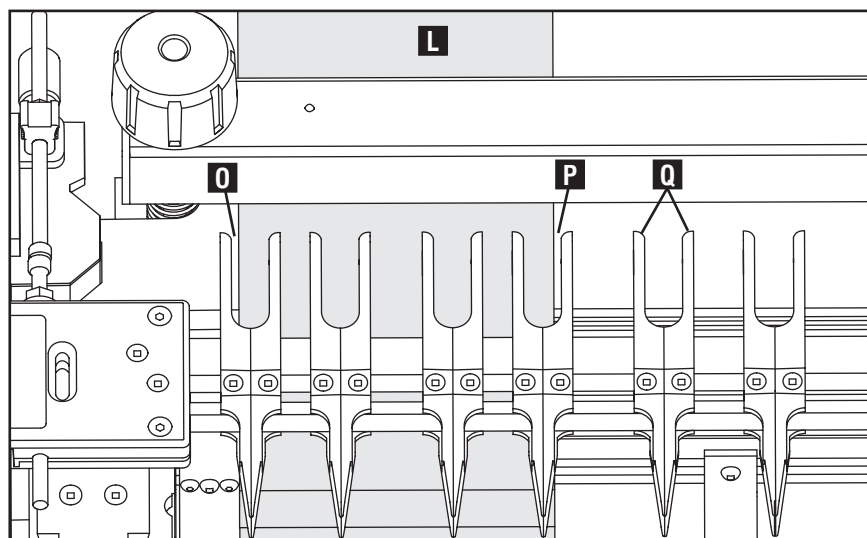

Fig. E5
5. Mount template onto the rods with the "B Pins" (yellow) label (M) facing up to the left side.
6. Slide in a scrap vertical piece (N) up against the template flush with the left guide.
7. Move the pinboard (horizontal piece) (L) forward against the vertical scrap (N) for position and then slide vertical piece down out of the way. Be sure the pinboard is flush with left edge guide (J).
**NOTE:** An 1/8" gap is recommended between the horizontal pinboard (L) and the fingers as shown at (O) and (P) Fig. E5. This will help maintain proper spacing at the corners.
**NOTE:** Before making cut, put at least one finger set (Q) 1-2 inches away from the right edge of the horizontal board for router stability.